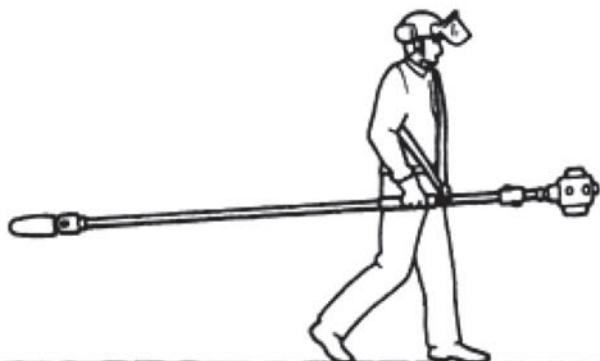

Figure 1
- When carrying by hand, the chain should be pointing backward. See Figure 1.